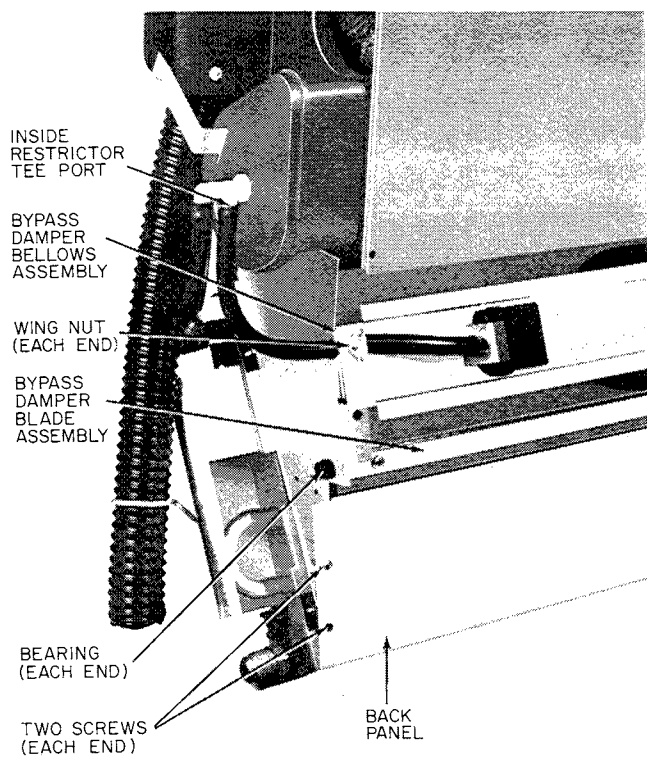

Fig. 9 — Bypass Damper Assembly
2. Remove 4 screws fastening bottom rear panel to unit (Fig. 9).
Bellows Assembly Removal (Fig. 9)